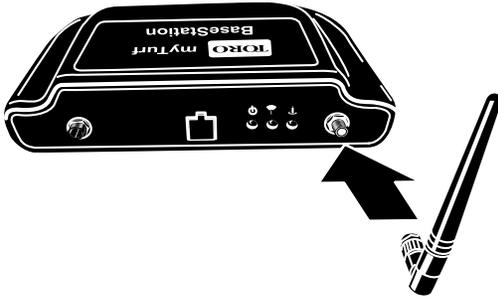

Figure 5
1. With the whip antenna pointed vertically, install the whip antenna to the BaseStation (Figure 5).